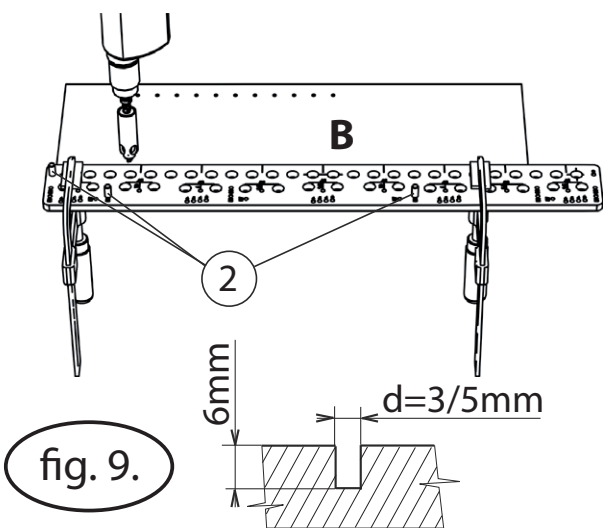

fig. 9.
Put two stops (**pos. 2**) into **50** holes and one stop (**pos. 2**) into **0** hole at the template edge. Place FKP on the workpiece so that the two stops in **50** holes are touching the workpiece front side and the stop in **0** hole is touching the workpiece upper side. Thanks to use of the **50** holes, the shelf supports will be placed **50** mm from the front side. Use the boring bush **FKP101** with a dowel bit for blind holes according to the shelf support diameter (fig. 9).